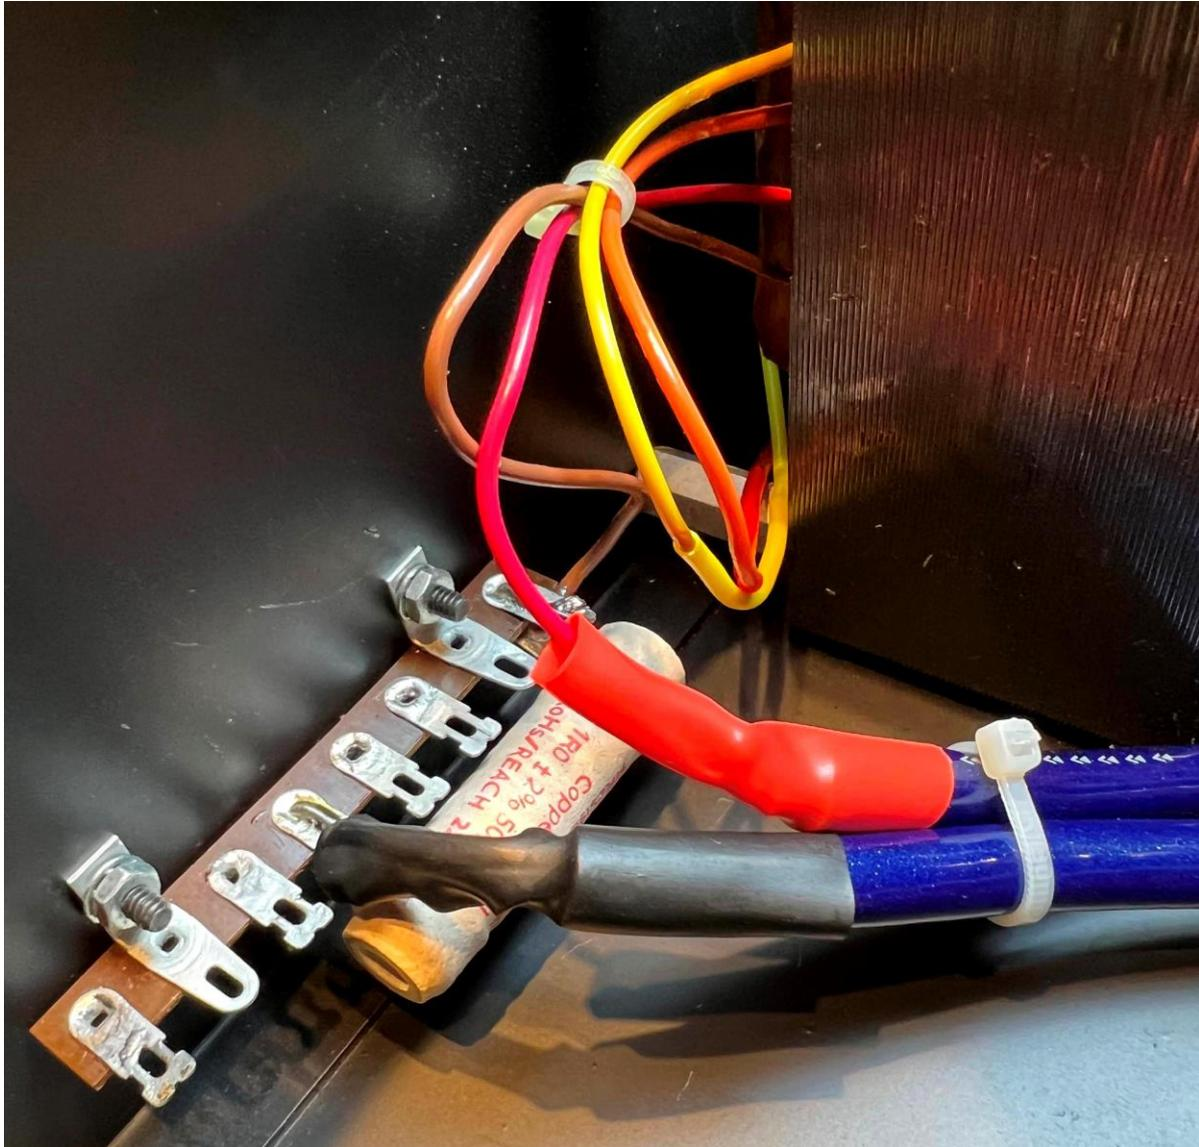

Figure 18. Terminal strip connections for low-frequency wiring and new 1-ohm resistor.
- The corroded low-frequency wiring was replaced with new Oxygen Free Copper (OFC) speaker cable that I had spare from another project (Fig. 18).